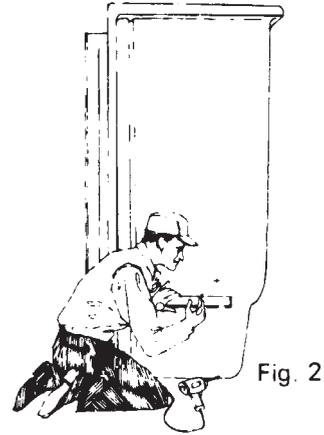
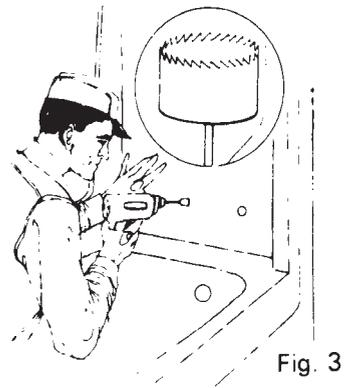

Fig. 2
Fig. 3
6. On the back of the unit, lay out accurately the location of the holes for supply and mixing valves. Shower head may be located either through wall of unit or in wall above. From the back of the unit, drill a pilot hole (1/4" or less) at location markings for fittings (Figure 2). From the face of the unit, drill or cut these holes to required size. Use a hole saw bit of the proper size (Figure 3). For shower units, move the unit into framed area by tipping the unit toward the installer and push until the waste pipe is directly under the drain outlet, then tip shower upright into the framed area.